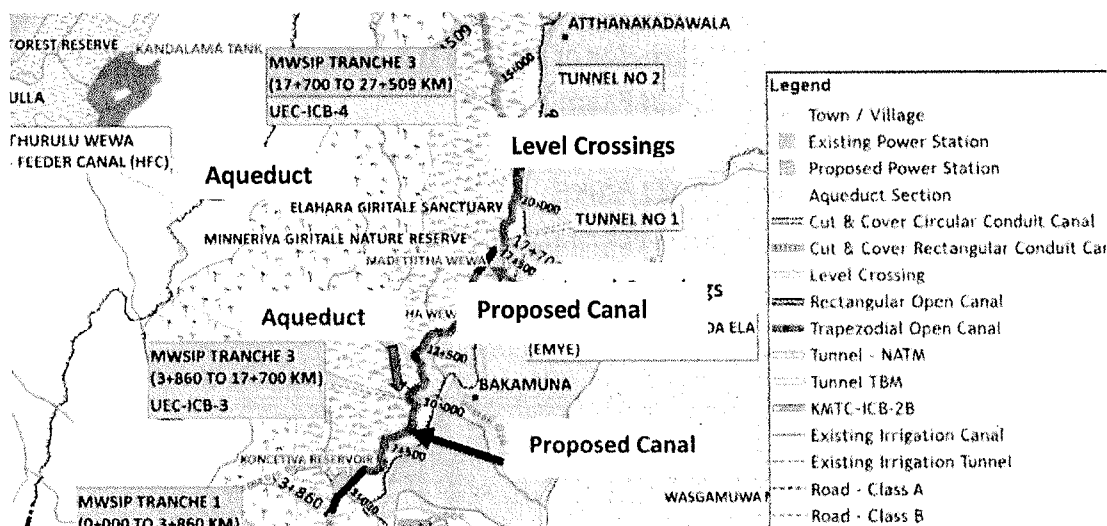

Figure Q1.1: Proposed irrigation project
Figure Q1.1 shows a proposed canal by the Mahaweli Authority. It can be identified that, in irrigation projects, water conveyance is usually carried out using *open channels* rather than *pipes*.
- ii. Open channel flow can be classified based on *channel geometry*. Refer to the proposed canal system shown in Figure Q1.1 and identify 2 types of canals that exhibit *geometrically different shapes*. [2.0 Marks]
- c. The proposed irrigation project layout in Figure Q1.1 highlights various cross-drainage structures, including *Aqueducts* and *Level Crossings*, necessitated by the intersection of the canal with natural drainage paths. Q123